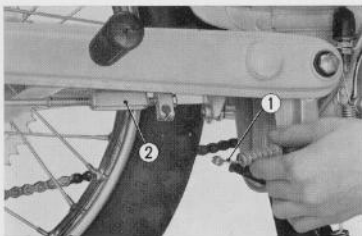

Fig. 4.63 Removing rear brake cable
- (3) Remove the rear brake cable ① from the brake rod ②. (Fig. 4.63)
- (4) Remove the 8 mm jam nut from the rear brake pipe and remove the cotter pin at the opposite end.